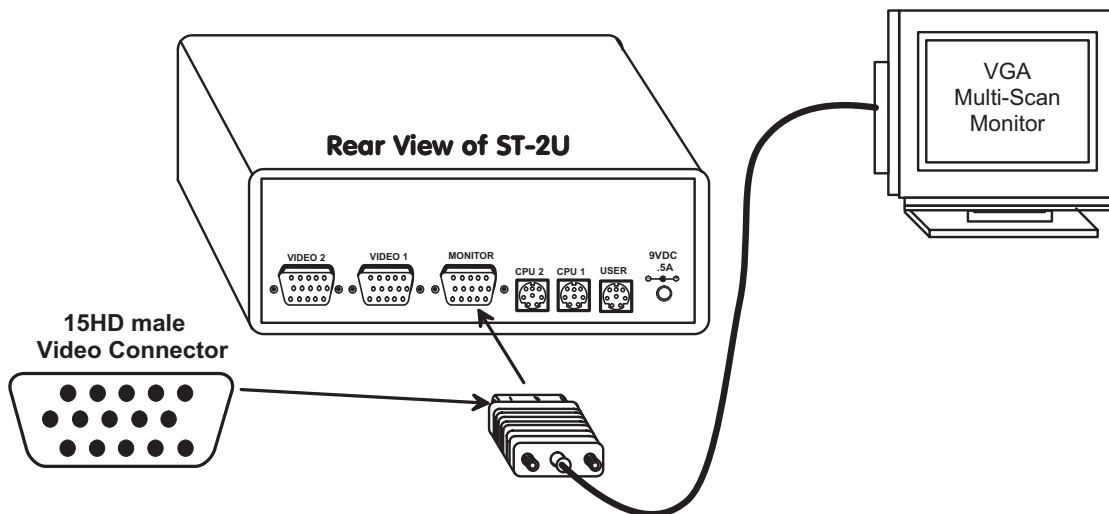
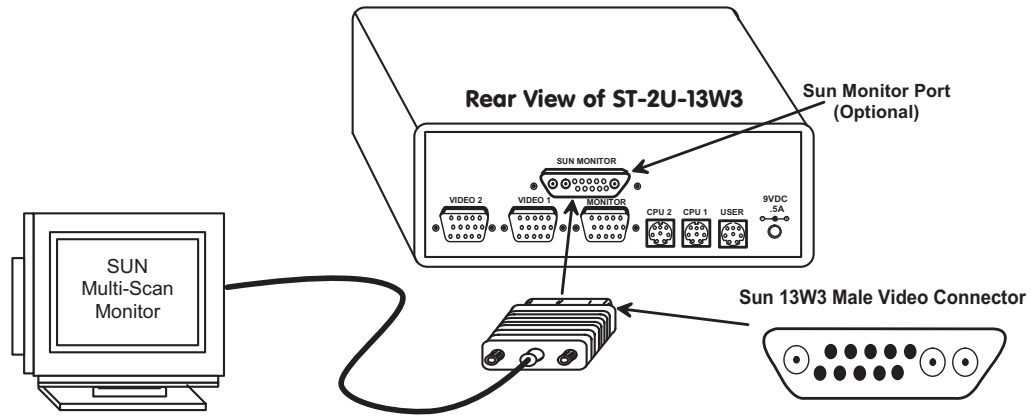

Figure 2- Connect VGA multi-scan monitor to ST-2U
Figure 3- Connect SUN monitor to ST-2U-13W3
3. Connect a VGA multi-scan monitor to the port labeled "MONITOR" on the ST-2U switch (Fig. 2), or, a SUN multi-scan monitor (if the switch model number is ST-2U-13W3 as shown in Fig. 3).